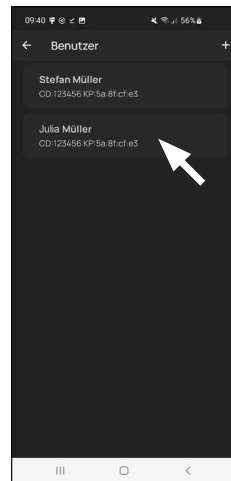

Fig. 7
- ! **Note:** If you wish to enter opening media for other users, go back one menu and select the respective user (Fig. 7). Repeat the steps in this chapter for this user.